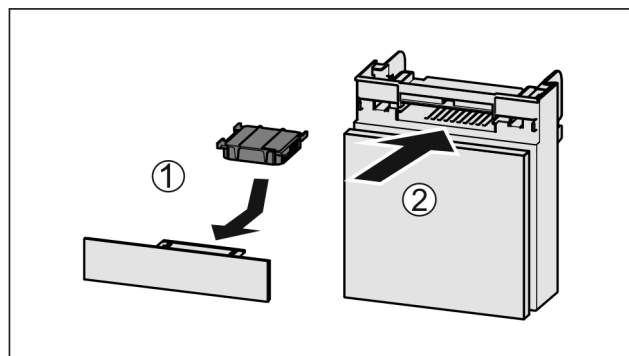

Fig. 114
- ▶ Insert the carbon filter as shown in the diagram Fig. 114 (1).
- ▶ Push the compartment in Fig. 114 (2).